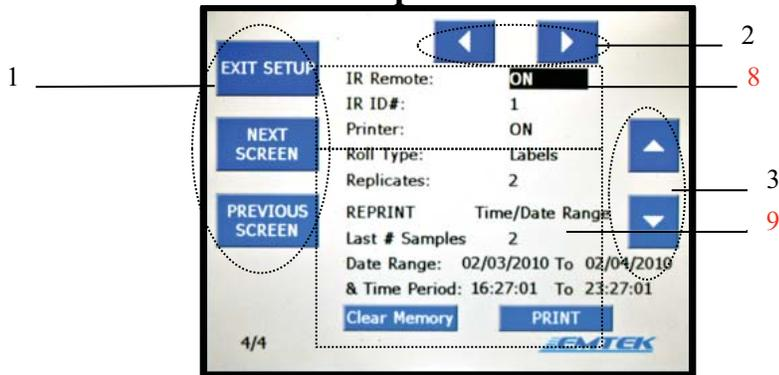

Fig 7.2.4 Screen 4
6. If a label/paper output is desired, ensure that the printer is turned on (Fig 7.2.4, #8) and that the unit has an adequate supply of paper/labels (Section 7.5).